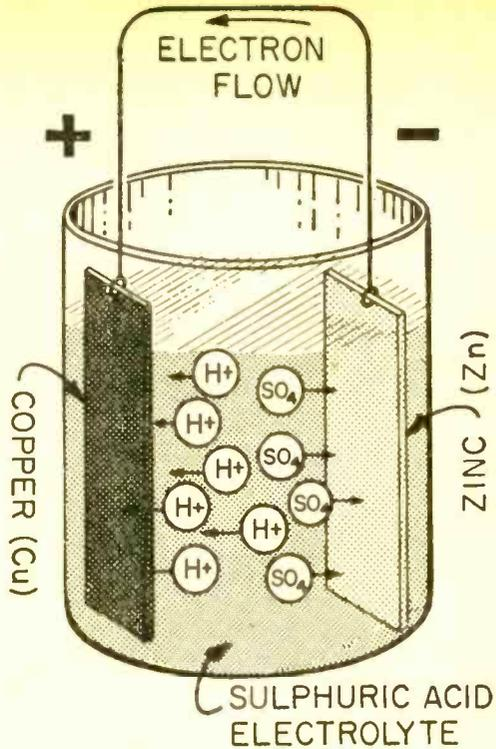

Fig. 1. Allesandro Volta's Zn-Cu cell.
**How Volta did it.** To get a good understanding of just how electricity is produced from chemical action, let's go back to Volta's original zinc-copper cell, although this time, substituting dilute sulphuric acid for his original acetic acid electrolyte. In figure 1, we see two strips of metal, one of copper and the other of zinc, immersed in a dilute solution of sulphuric acid and water—called the *electrolyte*.